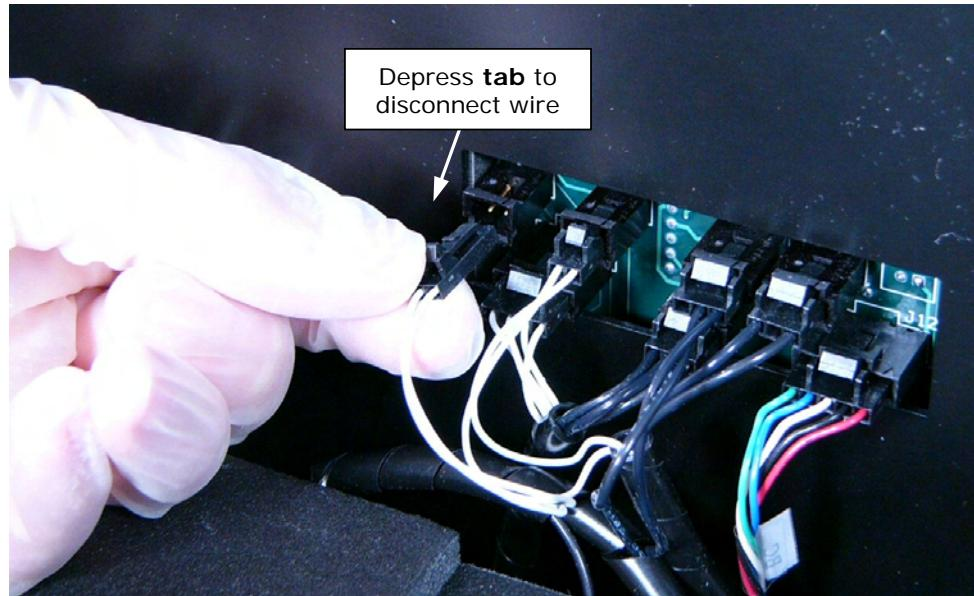

Figure 10: Disconnect the heater wires from the rear wall of the reader
1. Disconnect two of the heater wires located in the center of the reader's rear wall. The two wires appear to be in positions 1 and 3 of the top row of wires (see **Figure 10**). To disconnect them, depress the small tab and separate the connectors.